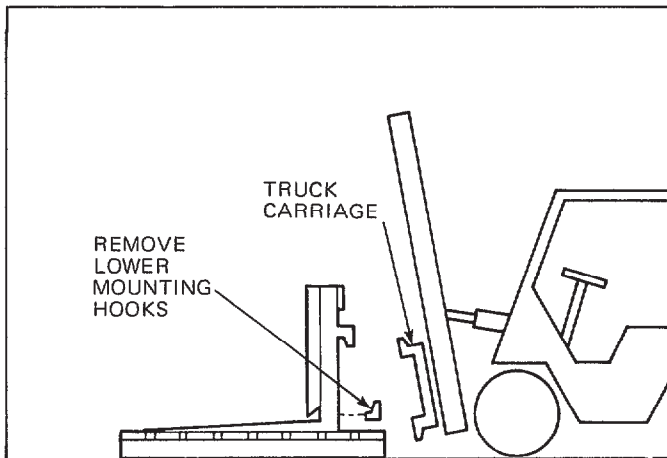

Figure 4. Position for Installation
1. Remove the lower mounting hooks from the attachment. See Figure 4.
junction block can be connected to the attachment. See Figure 4.